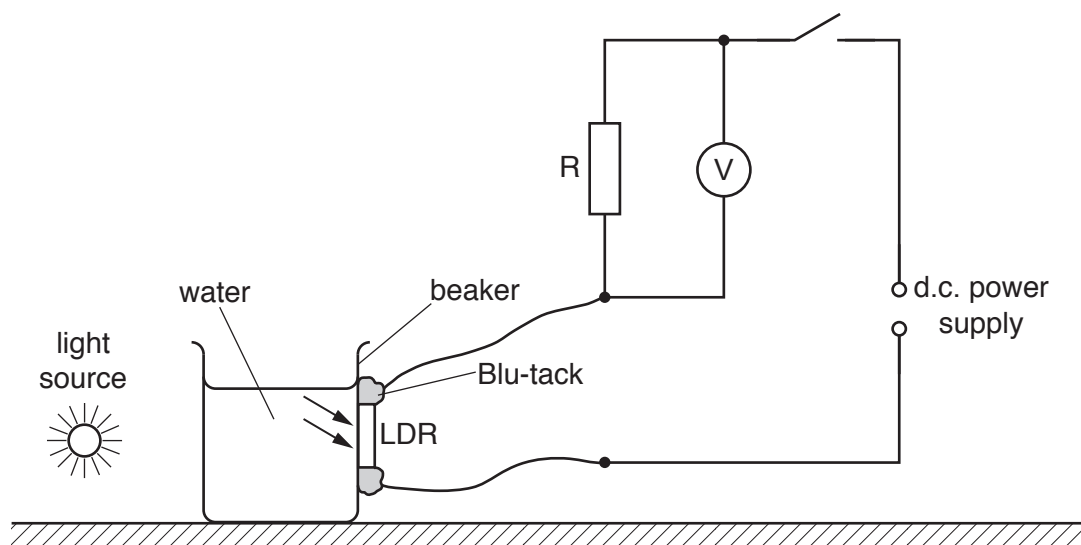

Fig. 2.1
4. The Supervisor should set up the apparatus as shown in Fig. 2.1.
- ensure that the apparatus has been restored to its original state as in Fig. 2.1. If cells are used in the circuit, they should be checked and replaced, if necessary.